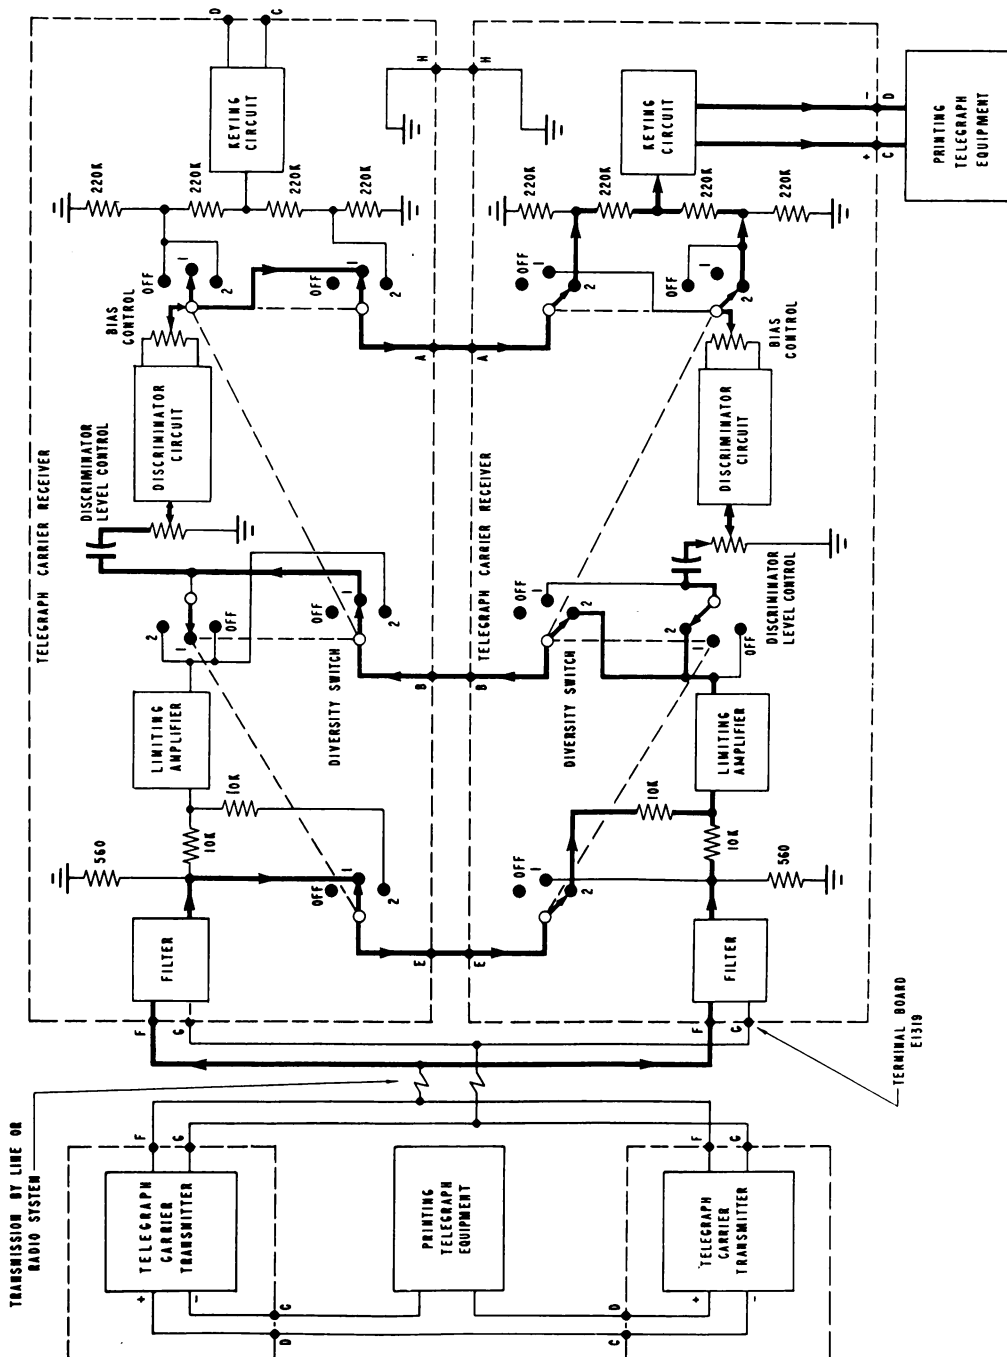

Figure 1. Corrected Block Diagram of Telegraph Carrier Receivers in Frequency Diversity
- Page 2-10 Fig. 2-9 E Change as shown in Figure 1 on following page.